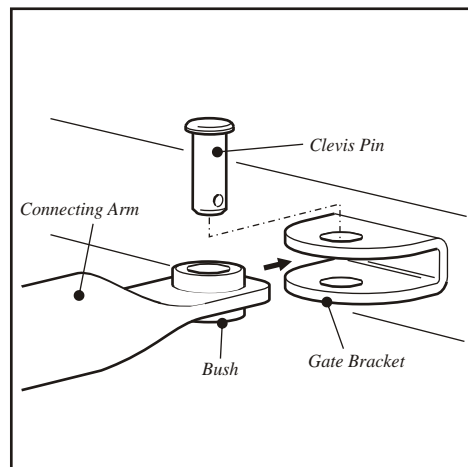

Figure 19 Fit Connecting Arm to Gate Bracket
14. Open the gate, and possibly swing the drive arm slightly, until the connecting arm can be fitted into the gate bracket using the clevis pin (see Fig. 19)
19. Once a satisfactory gate opening has been achieved, the connecting arm must be fully tightened: Disconnect the connecting arm from the gate bracket. Remove the bushes from the front end of the connecting arm. Using a large screwdriver or similar lever, tighten the ski-pole lock using half-turns until it is as tight as possible and aligned with the gate bracket. Replace the bushes and reconnect the connecting arm to the gate as shown in Fig. 19.